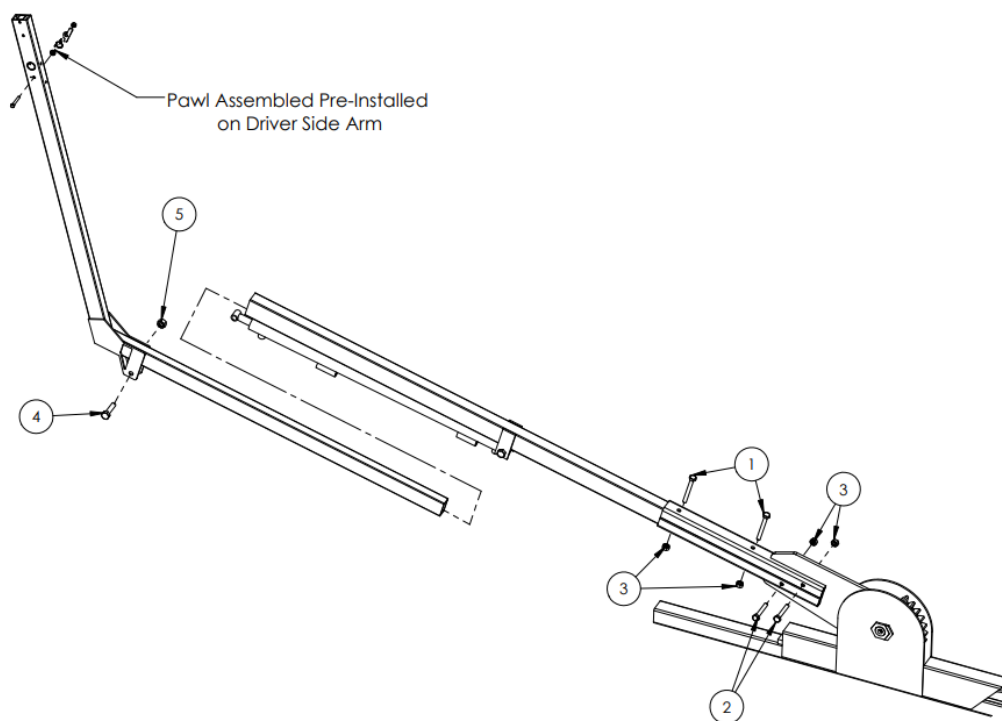

Figure 2.9: Assembling Base Arm and Extension Arm
Slide the Base Arm into the Pivot Arm until holes align. Using the provided $\frac{1}{2}$ " hardware, secure the base arm to the pivot arm. Two $\frac{1}{2}$ " x 4-1/2" bolts (1) through each top channel and two $\frac{1}{2}$ " x 3-1/2" bolts (2) through each side channel using $\frac{1}{2}$ " lock nuts (3) to secure, see *Figure 2.9*.
Slide the upper extension arm into the base arm. The driver side arm has the pawl and spring assembly attached. Carefully, take the temporary arm cylinder restraint loose and bolt extension arm to cylinder rod end using the provided 5/8" hardware (4 & 5), see *Figure 2.9* above. At this point, both arm assemblies should be installed and secured.